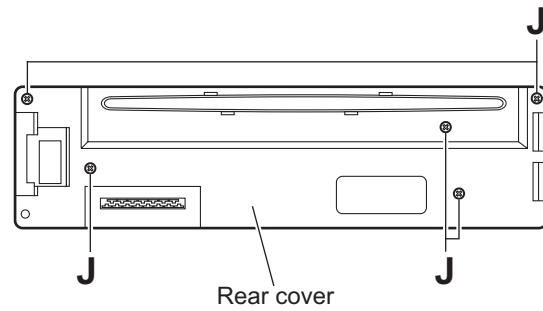

Fig.8
(See Figs.8 to 10)**
- (1) Remove the five screws **J** attaching the rear cover on the back side of the front panel assembly. (See Fig.8.)